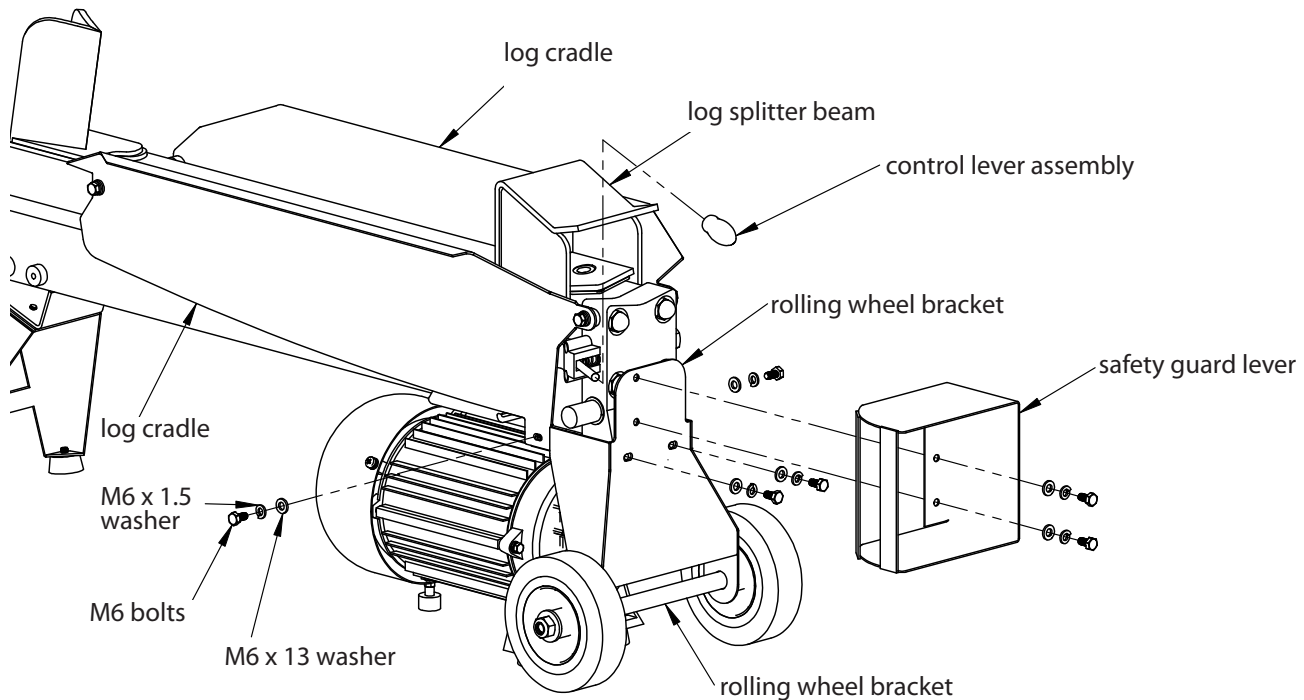

Figure 3
1. Attach the control lever assembly by screwing the knob to the end of the lever. **(SEE FIGURE 3)**
2. Bolt the rolling wheel bracket to the log splitter beam and log cradles using the four M6-1 x 12 bolts and corresponding lock and flat washers provided. **(SEE FIGURE 3)**
3. Attach safety guard lever to the top of the rolling wheel bracket with M6-1 x 12 bolts provided. **(SEE FIGURE 3)**